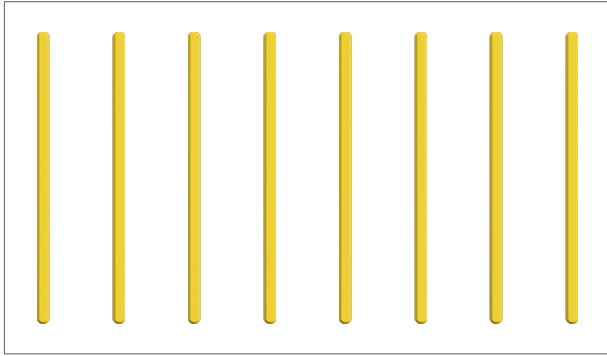
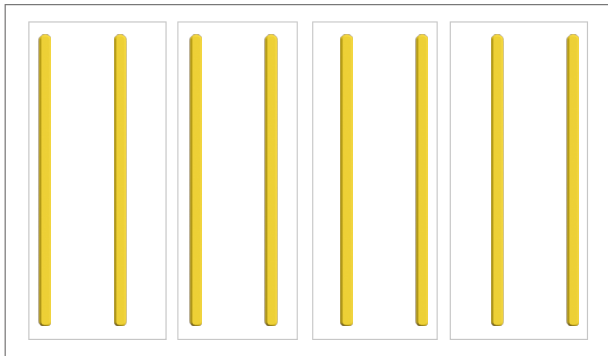

Figure 9a
Figure 9b
3. Apply six (6) more ribbons to each 2' x 4' (0.6 x 1.2 m) insulation board, evenly spaced (nominally 5" to 6" [127-152 mm] apart) between the end ribbons.
5. Where used, Sto ProD insulation boards shall have two adhesive ribbons between each drainage channel (Figure 9b).
**NOTE:** Sto TurboStick and Sto TurboStick Mini application pattern is the same for both standard (flat) (Figure 9a) Sto insulation board and Sto ProD (Figure 9b) insulation board.